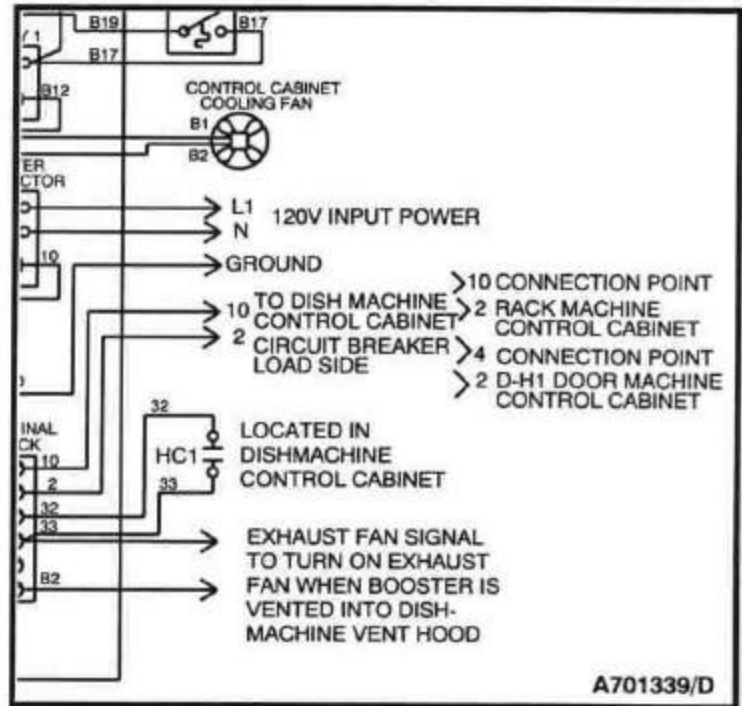
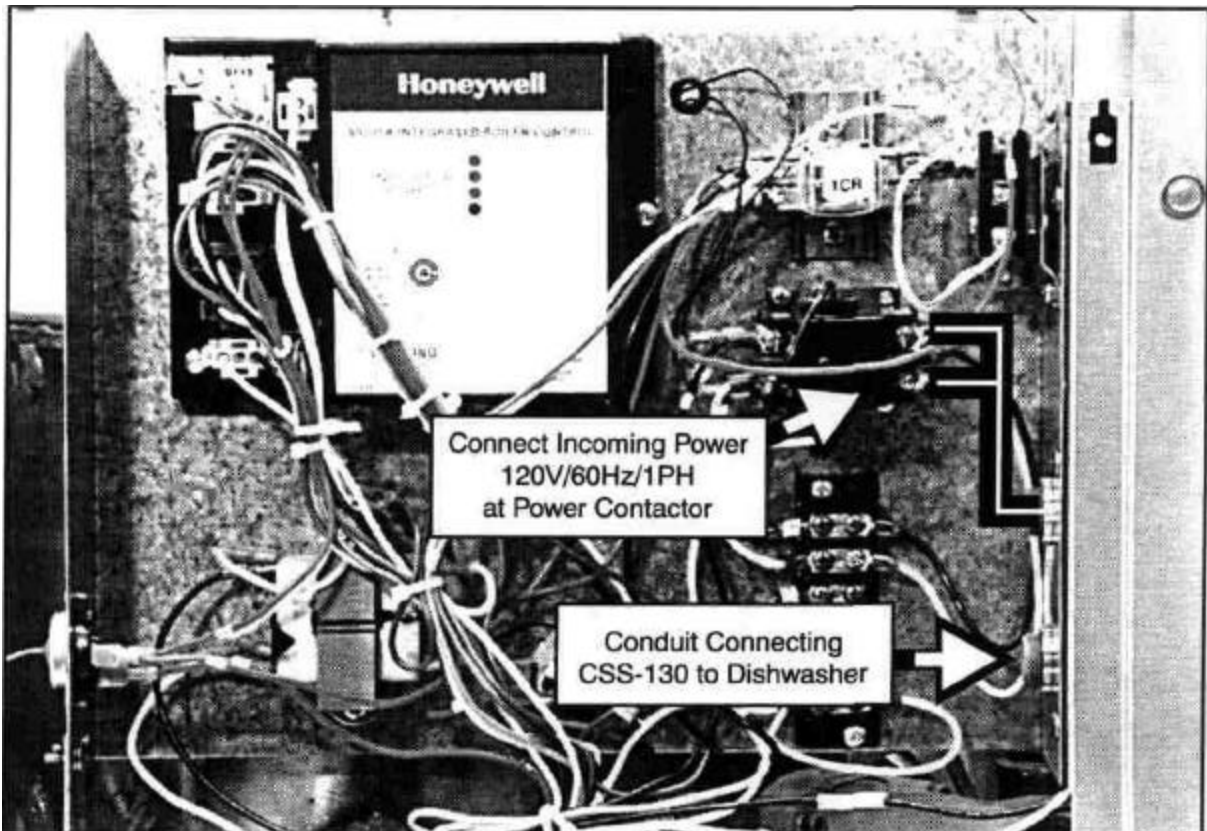

Figure 25 Electrical Schematic Detail
Figure 26 CSS-130 Control Panel Power Connections (Inside right front side)
3. All electrical connections are made in the CSS-130 control cabinet which is located on the right side front of the unit (See Fig. 25). Wiring connections should be made as shown in the electrical schematic (See Fig. 26).
6. The schematic detail. Fig. 25 shows the incoming power connected at the power contactor. The contactor is located inside the CSS-130 control cabinet.